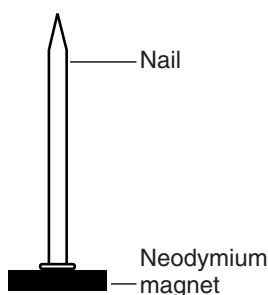

Figure 1.
2. Place the head of the nail on the Neodymium magnet. Make sure the nail is centered on the cylindrical magnet so the nail-magnet unit will be balanced when it spins (see Figure 1).